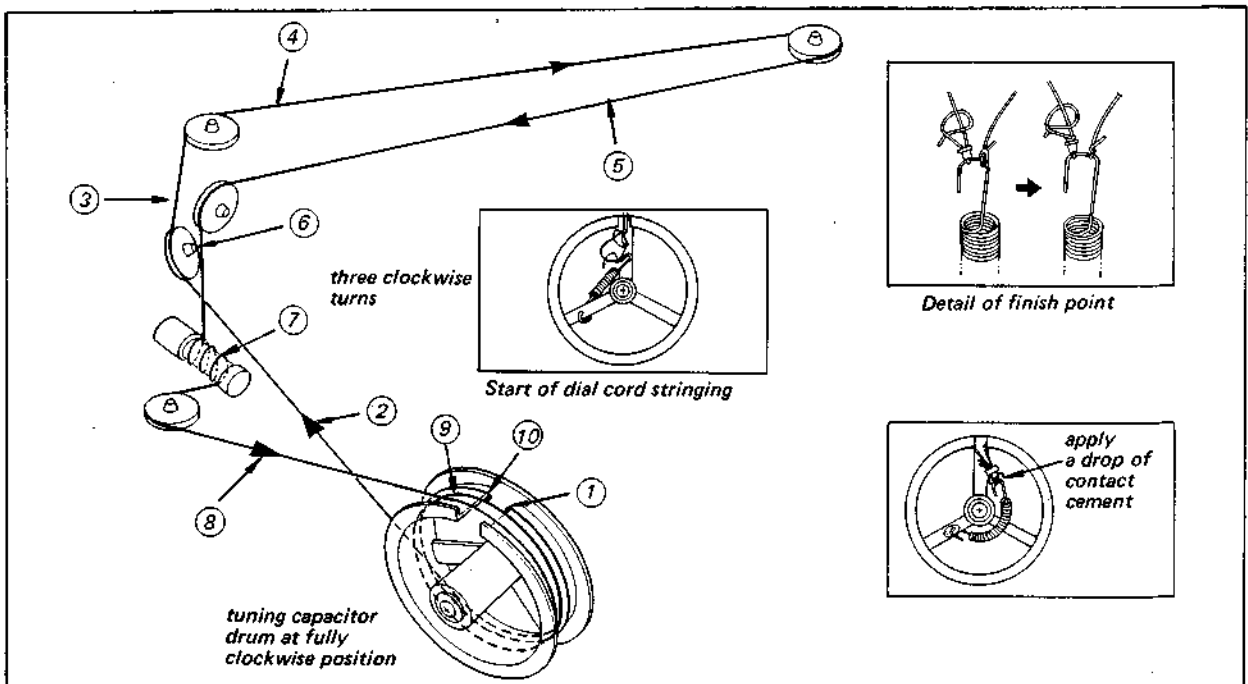

Fig. 2-5. Dial cord stringing
2. Tie the end of the cord to a spring as shown in Fig. 2-5.
1. Referring to Fig. 2-5, proceed the stringing in numerical order as shown.